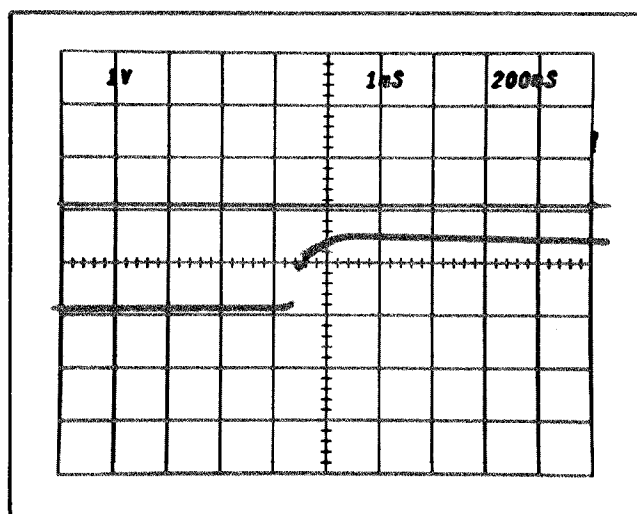

Fig. 5-14. CRT display showing delay time jitter.
c. CHECK--Jitter on the leading edge of the pulse does not exceed 1 division (1 part in 50,000 of 10 times the TIME/DIV setting). See Fig. 5-14. Disregard any slow drift.